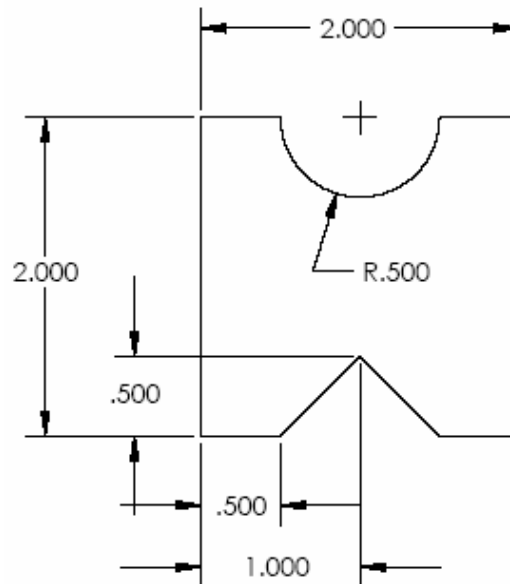

Figure 1:
5. **Simple Extrusion:** Up to this point, only the Sketch function library has been used. Once the geometry is defined as in Figure 1, select the *Features* command on the left-hand side of the SolidWorks toolbar. This should bring up a new menu of functions to the right which correspond to various features that can be created from the sketched geometry. Select the *Extruded boss/base* button on the Features toolbar, and you will see the history window on the left-hand side of the screen change to a menu box containing various submenus. In the submenu labeled “Direction 1” Select *blind* from the drop down menu, and then enter the depth value of **2.00 in.** in the “D1” depth box. A preview of the extrusion should appear in the model space, and can then be applied by clicking the green checkmark in the top corner of the Extrude menu. If done correctly the result should look somewhat similar to the following: